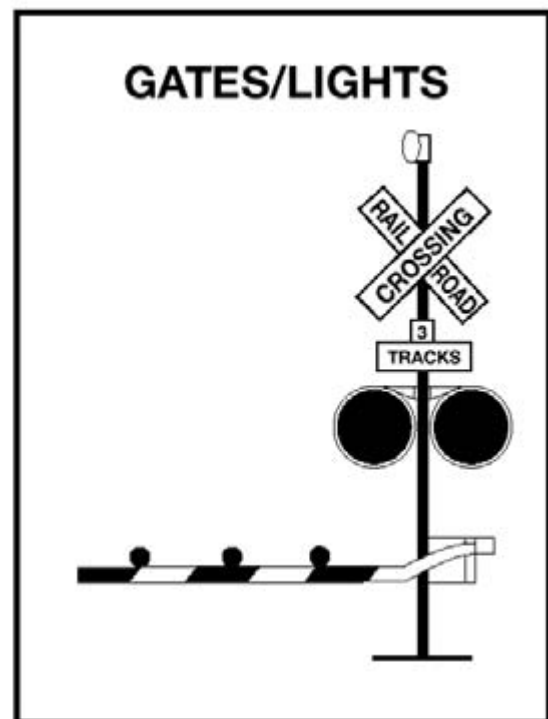

Figure 10.8
**Flashing Red Light Signals.** At many active highway-rail grade crossings, the crossbuck sign has flashing red lights and bells. When the lights begin to flash, stop! A train is approaching. You are required to yield the right-of-way to the train. If there is more than one track, make sure all tracks are clear before crossing. See Figure 10.8.
**Gates.** Many active railroad-highway crossings have gates with flashing red lights and bells. Stop when the lights begin to flash and before the gate lowers across the road lane. Remain stopped until the gates go up and the lights have stopped flashing. Proceed when it is safe. If the gate stays down after the train passes, do not drive around the gate. Instead, contact your dispatcher. See Figure 10.8.